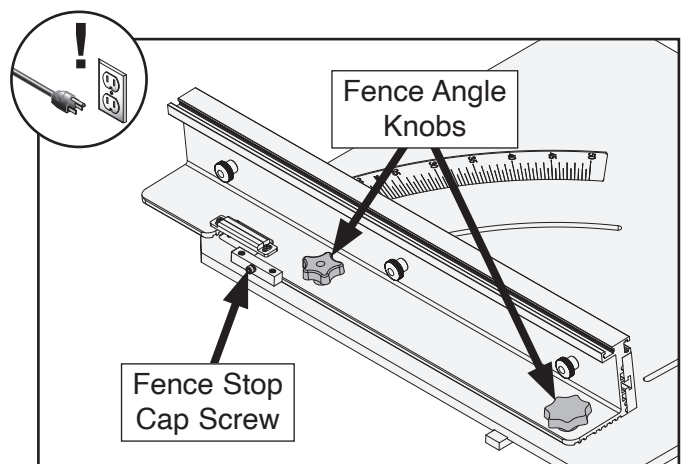
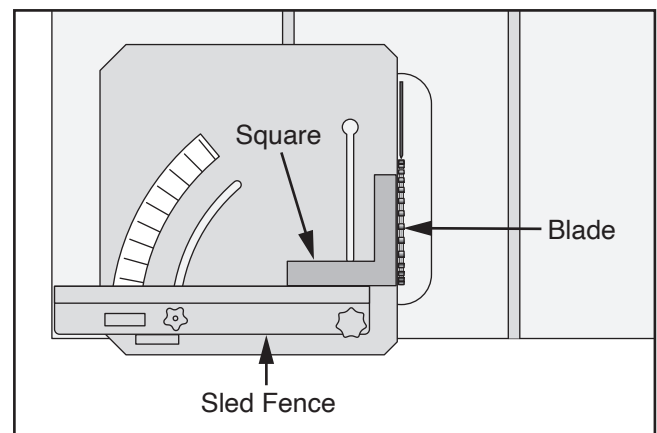

Figure 12. Location of fence knobs and fence stop cap screw.
Figure 13. 90° square against blade and sled fence (blade guard removed for clarity).
25. Loosen fence angle knobs shown in **Figure 12**, then place 90° square against blade body and sled fence (see **Figure 13**).
- If fence stop cap screw shown in **Figure 12** prevents this, loosen screw to move it out of the way.
27. Tighten fence stop cap screw (see **Figure 12** on **Page 10**) until it contacts fence.